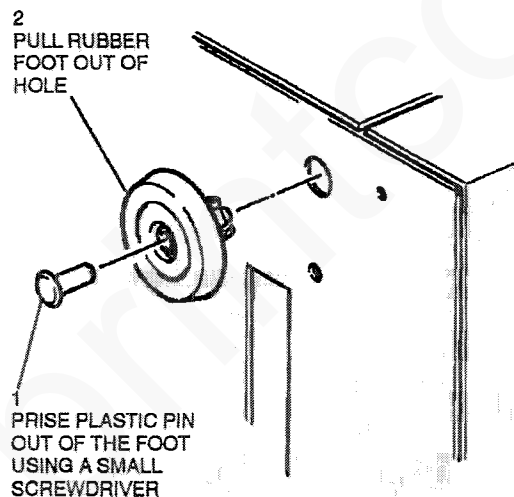

Figure 1. Rubber foot removal
8. (Figure 1) Remove the rubber foot.